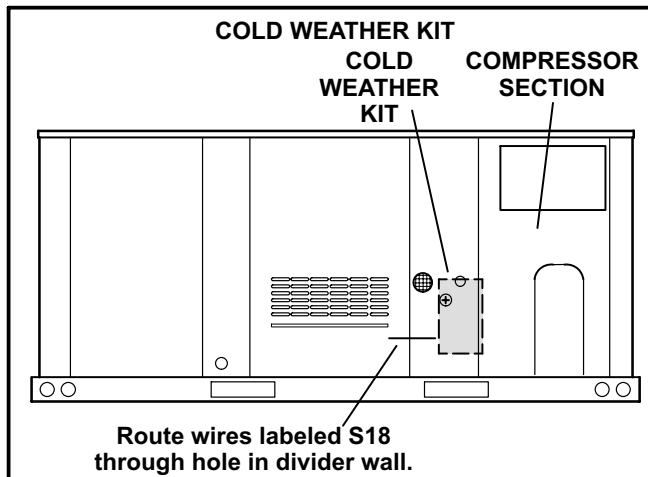

FIGURE 1
- 2- Install the cold weather assembly in the compressor compartment as shown in figure 1. Secure with four provided screws.
- 3- Route the wires labeled S18 from the cold weather assembly to the heat section. See figure 1.